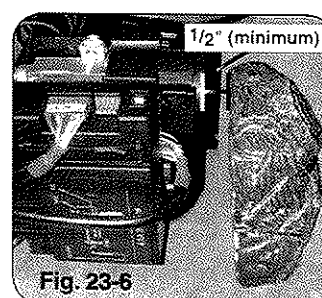

Fig. 23-6
- E. Decorative wood chip (if included) must be placed at least a 1/2 inch away from burner controls to avoid damaging the controls by overheating due to heat reflection (see Fig. 23-6).